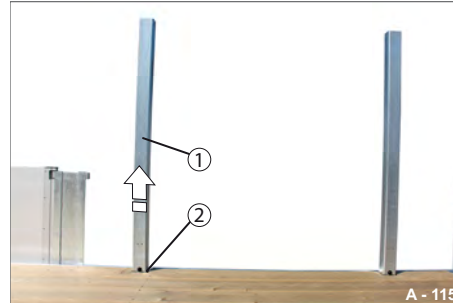

Fig. 170 Removing the slot-in post
- Lift the slot-in post (Fig. 170/1) out of the post pocket (Fig. 170/2).